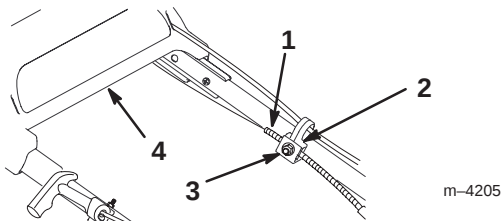

Figure 22
3. Loosen the cable support nut (Fig. 22).
6. Pull the cable jacket down (toward the lawn mower) to remove all the slack in the cable (Fig. 22).
7. While holding the cable jacket down, release the drive bracket and tighten the nut on the cable support (Fig. 22).